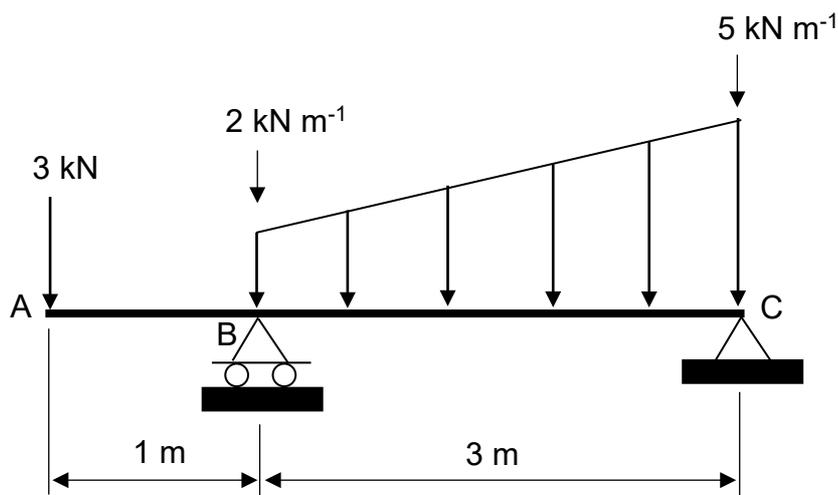

Figure Q2: Simply supported beam and loadings.
2. A simply supported beam, which forms part of a walkway, is loaded as shown in Figure Q2.